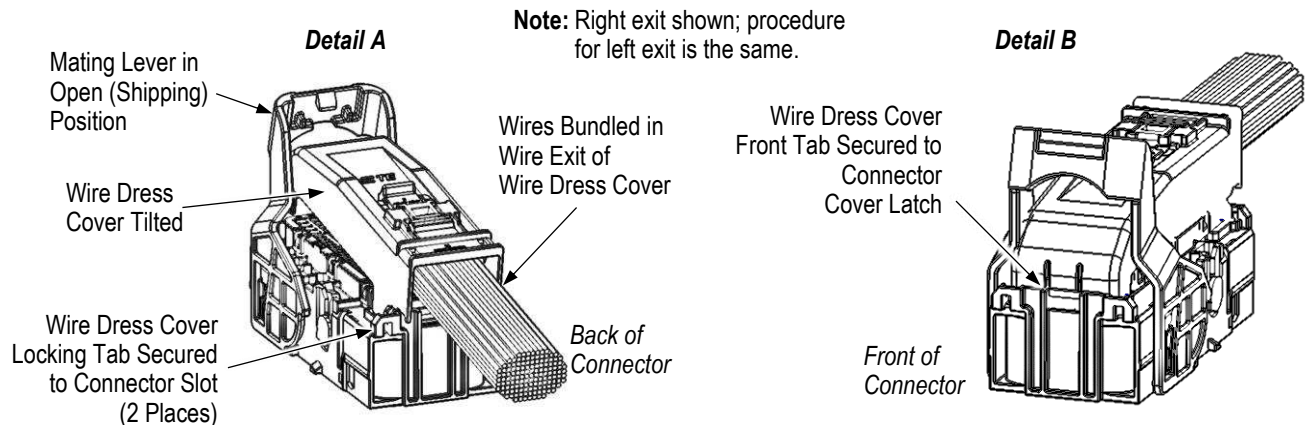

Figure 4
2. Bundle the wires to fit into the wire exit of the wire dress cover, then bend them in the direction of the exit (left or right). Refer to Detail A, Figure 4.
3. Position the wire dress cover over the connector with the wire exit over the wires, then tilt the wire exit end so that the locking tabs enter the slots of the connector as shown in Detail A, Figure 4.
4. Ensure that the wires are completely captured within the wire exit, then while maintaining pressure on the locking tabs, lower the other end of the wire dress cover onto the connector until the front tab snaps into the connector cover latch; see Detail B, Figure 4. Pull up gently on the center of the cover to ensure both ends are locked into position.
Final packaging of harness connector should be in a manner to eliminate risk of inadvertent movement of lever from shipping position as shown in Detail A, Figure 4.